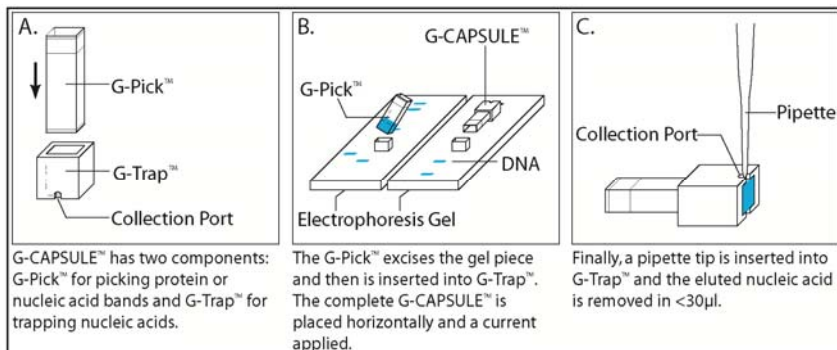

Figure 3: G-CAPSULE™ Scheme.
- II. **Excising & Picking up a Gel Band:** Use G-PICK™ to punch out the gel band (Figure 3).